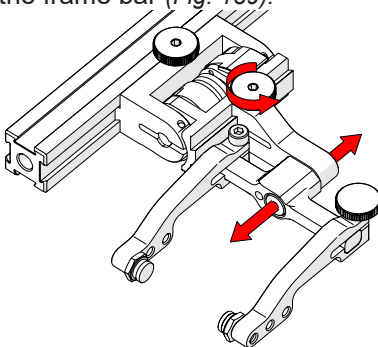

**Fig. 188** - Attach to frame bar
1. Rotate the probe holder adjustment knob and attach probe holder to a frame bar (*Fig. 188*).